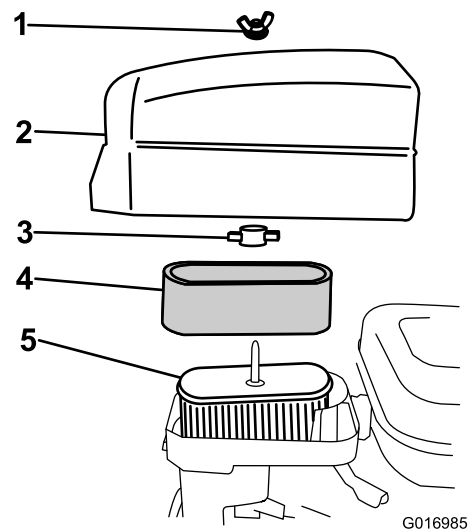

Figure 26
4. If the foam element is dirty, remove it from the paper element (Figure 26) and clean it thoroughly, as follows: